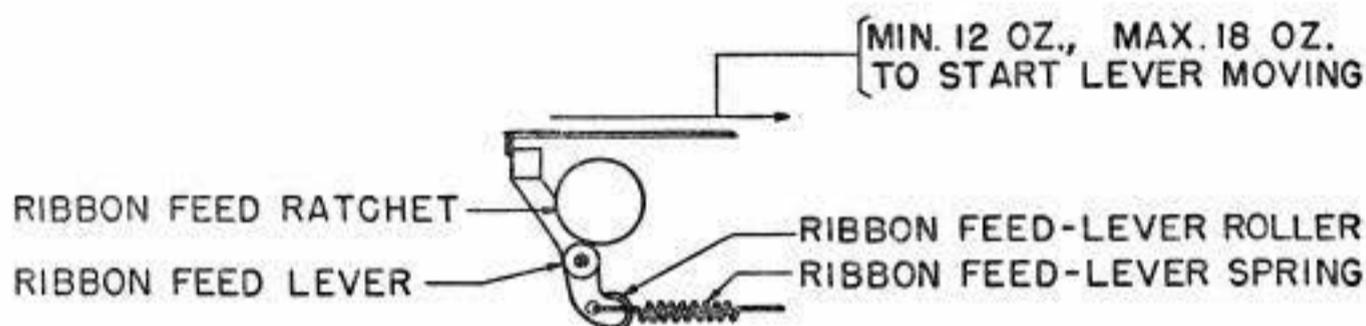

Fig. 20
2.31 **Ribbon-Feed-Lever Spring:** (Remove ribbon-feed pawl and check pawl.) It should require a pull as indicated in Fig. 20 to start the lever moving when the ribbon-feed-lever roller is in the plunger indent. **Fig. 20**